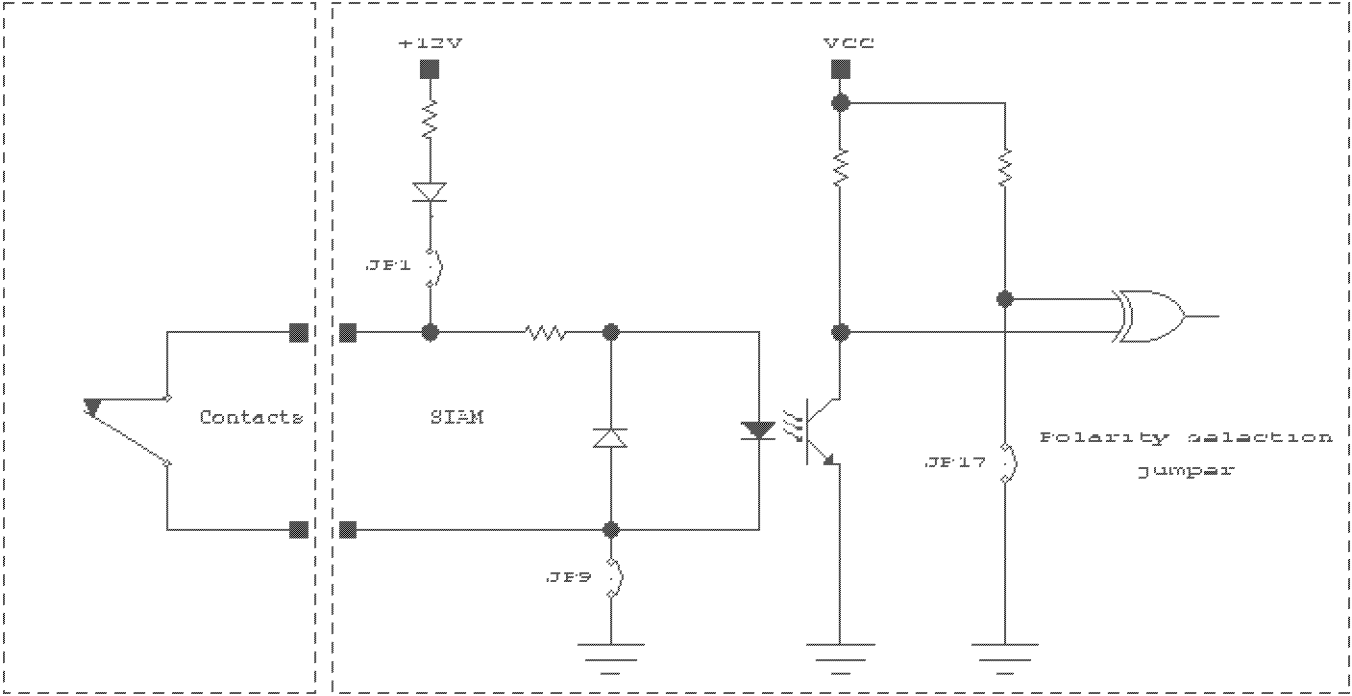
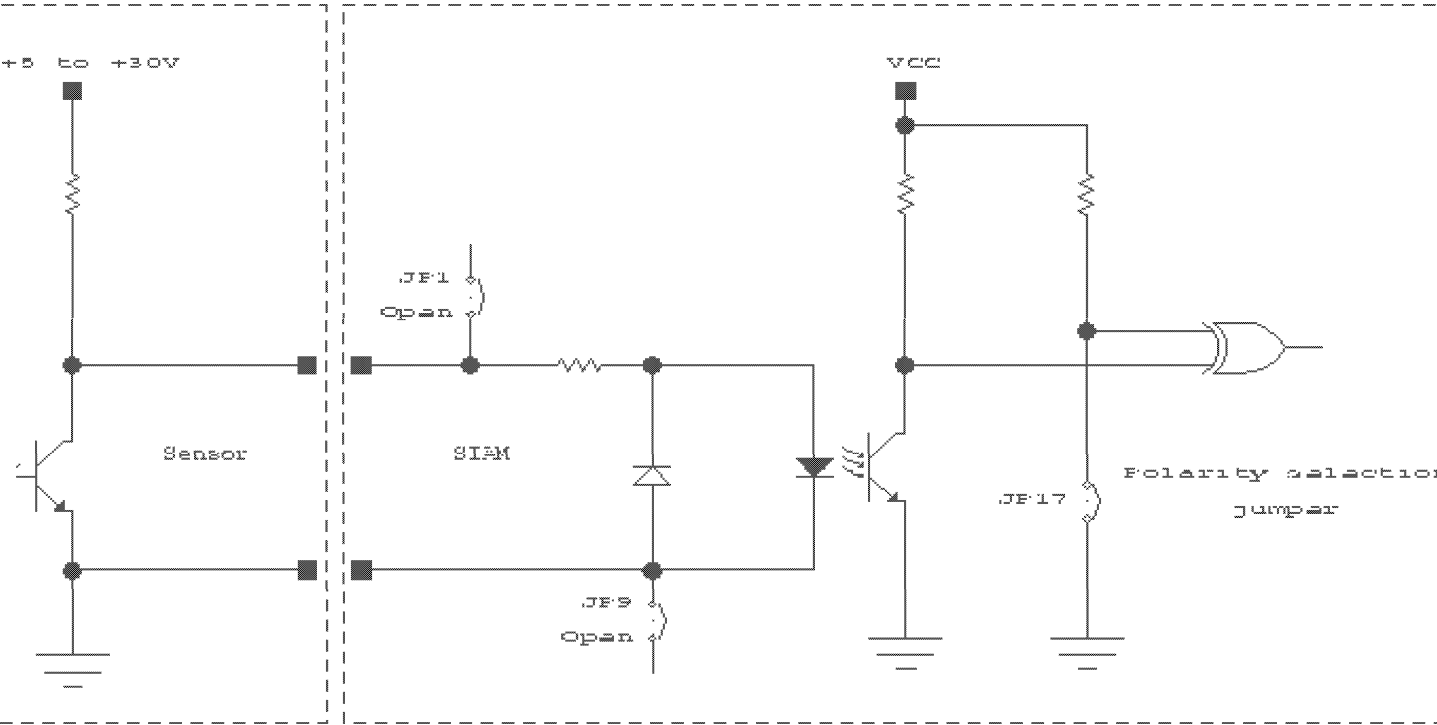

Figure 2. Contact input configuration
Figure 3. Opto-isolated voltage input configuration
I. Contact Input, see Figure 2.
II. Voltage input, see Figure 3.
A personality module (mezzanine board) provides programmability via jumpers and resistors to configure each input independently. An input can be connected to either normally open or normally closed contacts (Figure 2), or it can be optically isolated to accept an active high or an active low logic signal (Figure 3). A time constant determines how long an input error signal condition must be present before it causes a fault.